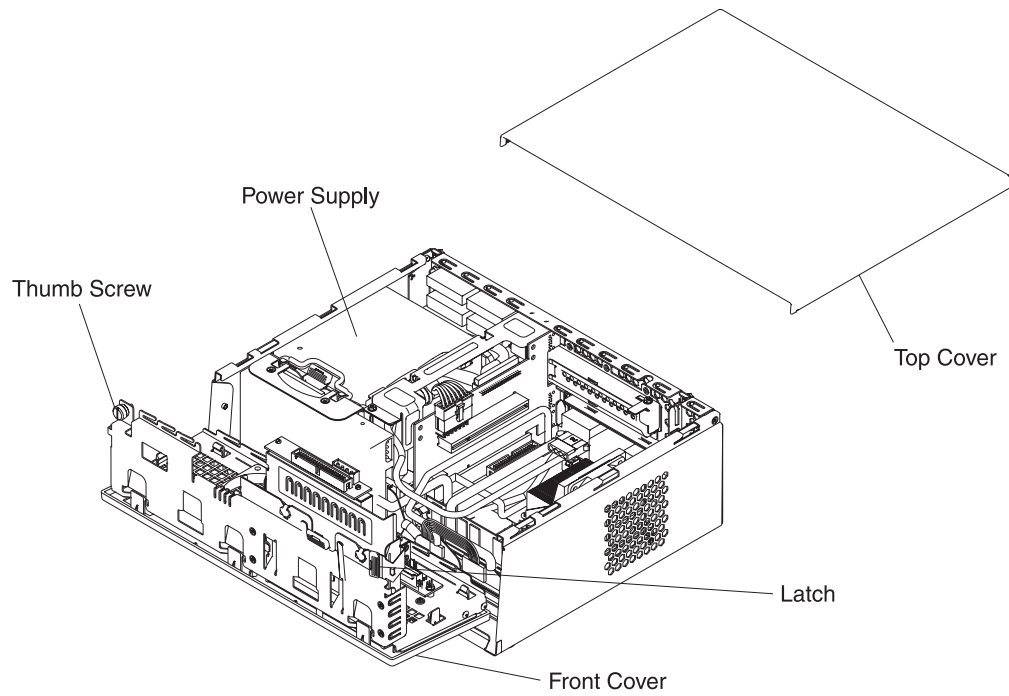

Figure 2-1. Opening the unit
5. While pushing down on the blue latch (see Figure 2-1 for location), rotate the front cover down.